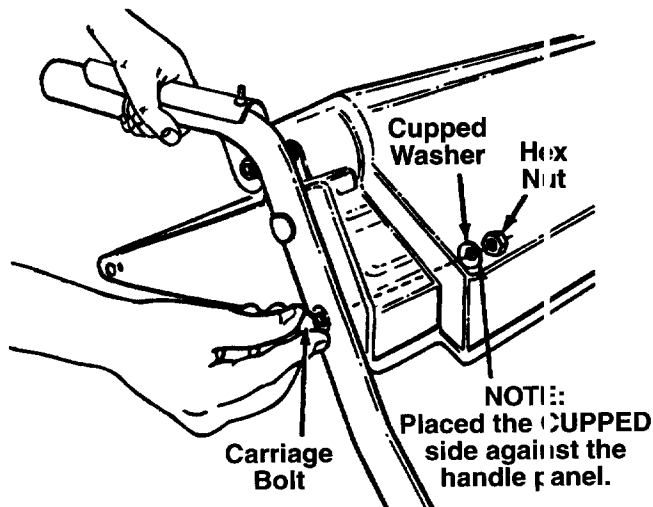

FIGURE 2.
4. Place the handle panel in position between the handles. To hold the handle panel in place, depress both clutch grips against the handles. While continuing to hold the right hand grip, release the left hand grip (the auger clutch lock will keep left hand grip engaged). See figure 2.
5. Fasten the right side of the handle panel by inserting two carriage bolts through the handle and handle panel (bolts must go through both the plastic and metal parts of the handle panel). Secure with cupped washers (cupped side against handle panel) and hex nuts. See figure 2.